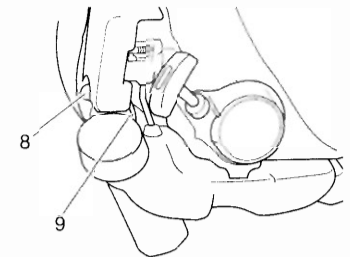

Fig. 5
- \* Push priming bulb (8) several times so that fuel flows through the bulb or return pipe (9). (Fig. 5)